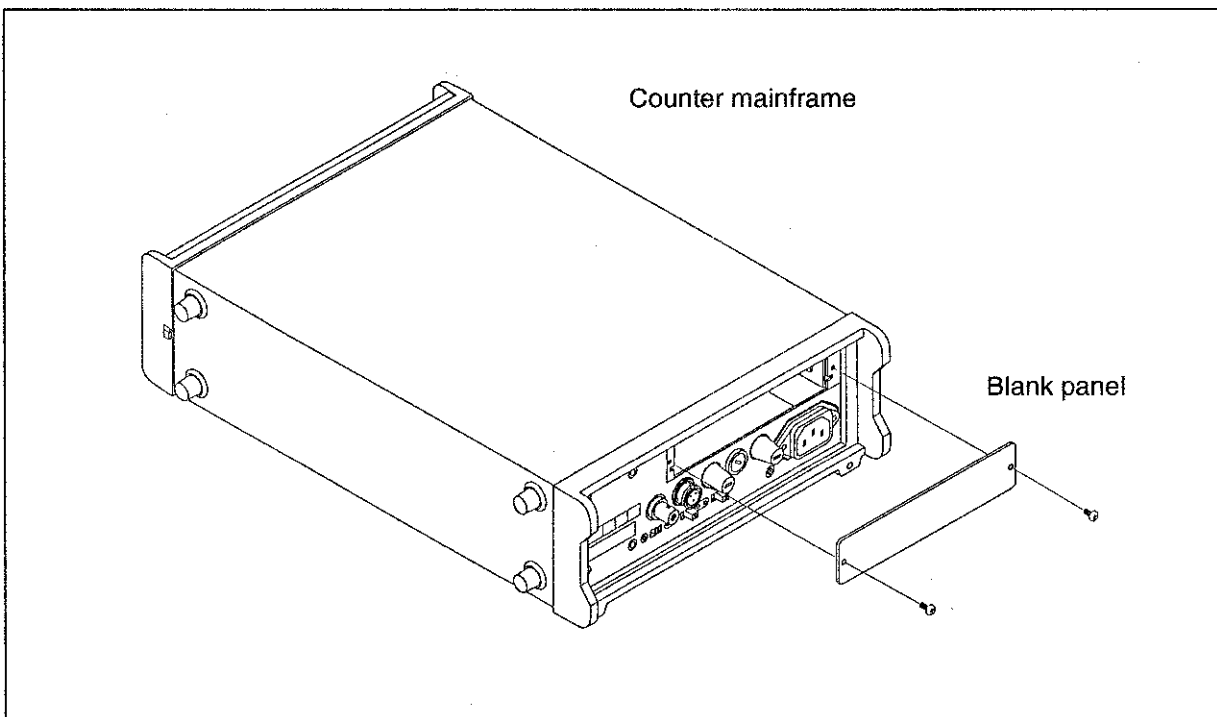

Figure 8-5 Removing the blank panel
- ① Set the STBY switch on the counter to , then disconnect the power cable from the rear socket of the counter.
- ② Remove the blank panel from the rear of the counter. (See Figure 8-5.)